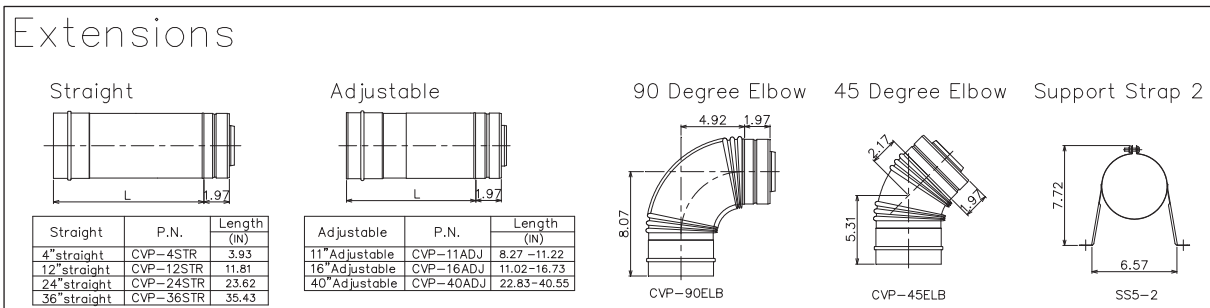
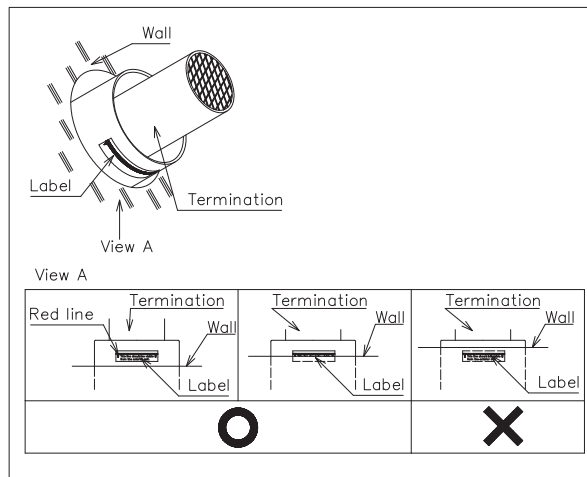

Fig 1 Dimensions of items (Concentric)
Fig 3 Position of the label with red line
When the termination is attached on the wall using "Extensions Series" in order to extend the vent system, use Horizontal extended installation in diagram below. (See Fig 1) Parts sold separately.
1. Check the location of appliance and the path for the vent system. Calculate the required number and combination of items above. (See Fig 1)
3. Check wall thickness where the vent system passes through, and select suitable parts according to Fig 1. In the case with thicker wall, insert CVP-4STR (Straight), CVP-11ADJ (adjustable) or CVP-16ADJ (adjustable) between CVT-S and CWF-F. When using Adjustable, open the hole with 1/8" diameter and fasten them by appropriate screw (ex. metal screw pan head #8-1/4). Adjust the length of the combination of the parts so that the end of the air intake part of CVT-S (termination) protrudes more than about 0.8" from the wall. Make sure the label with red line on the air intake of CVT-S (termination) should be downward, so that the red line of the label can be seen from the exterior wall. (See Fig 3)